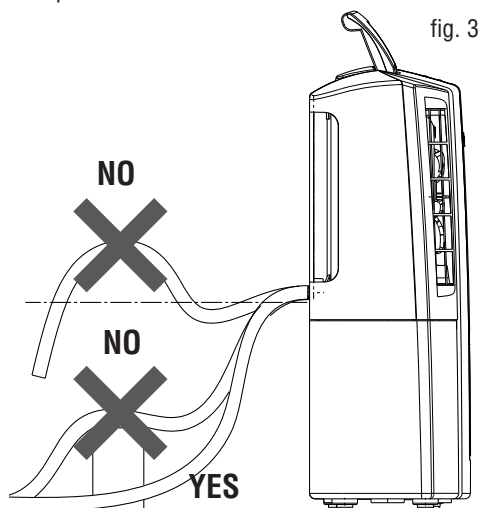

fig. 3
- 3) Make sure the end of the hose is no higher than the spout or water could remain in the tank. Make sure there are no kinks in the hose (Fig. 3).